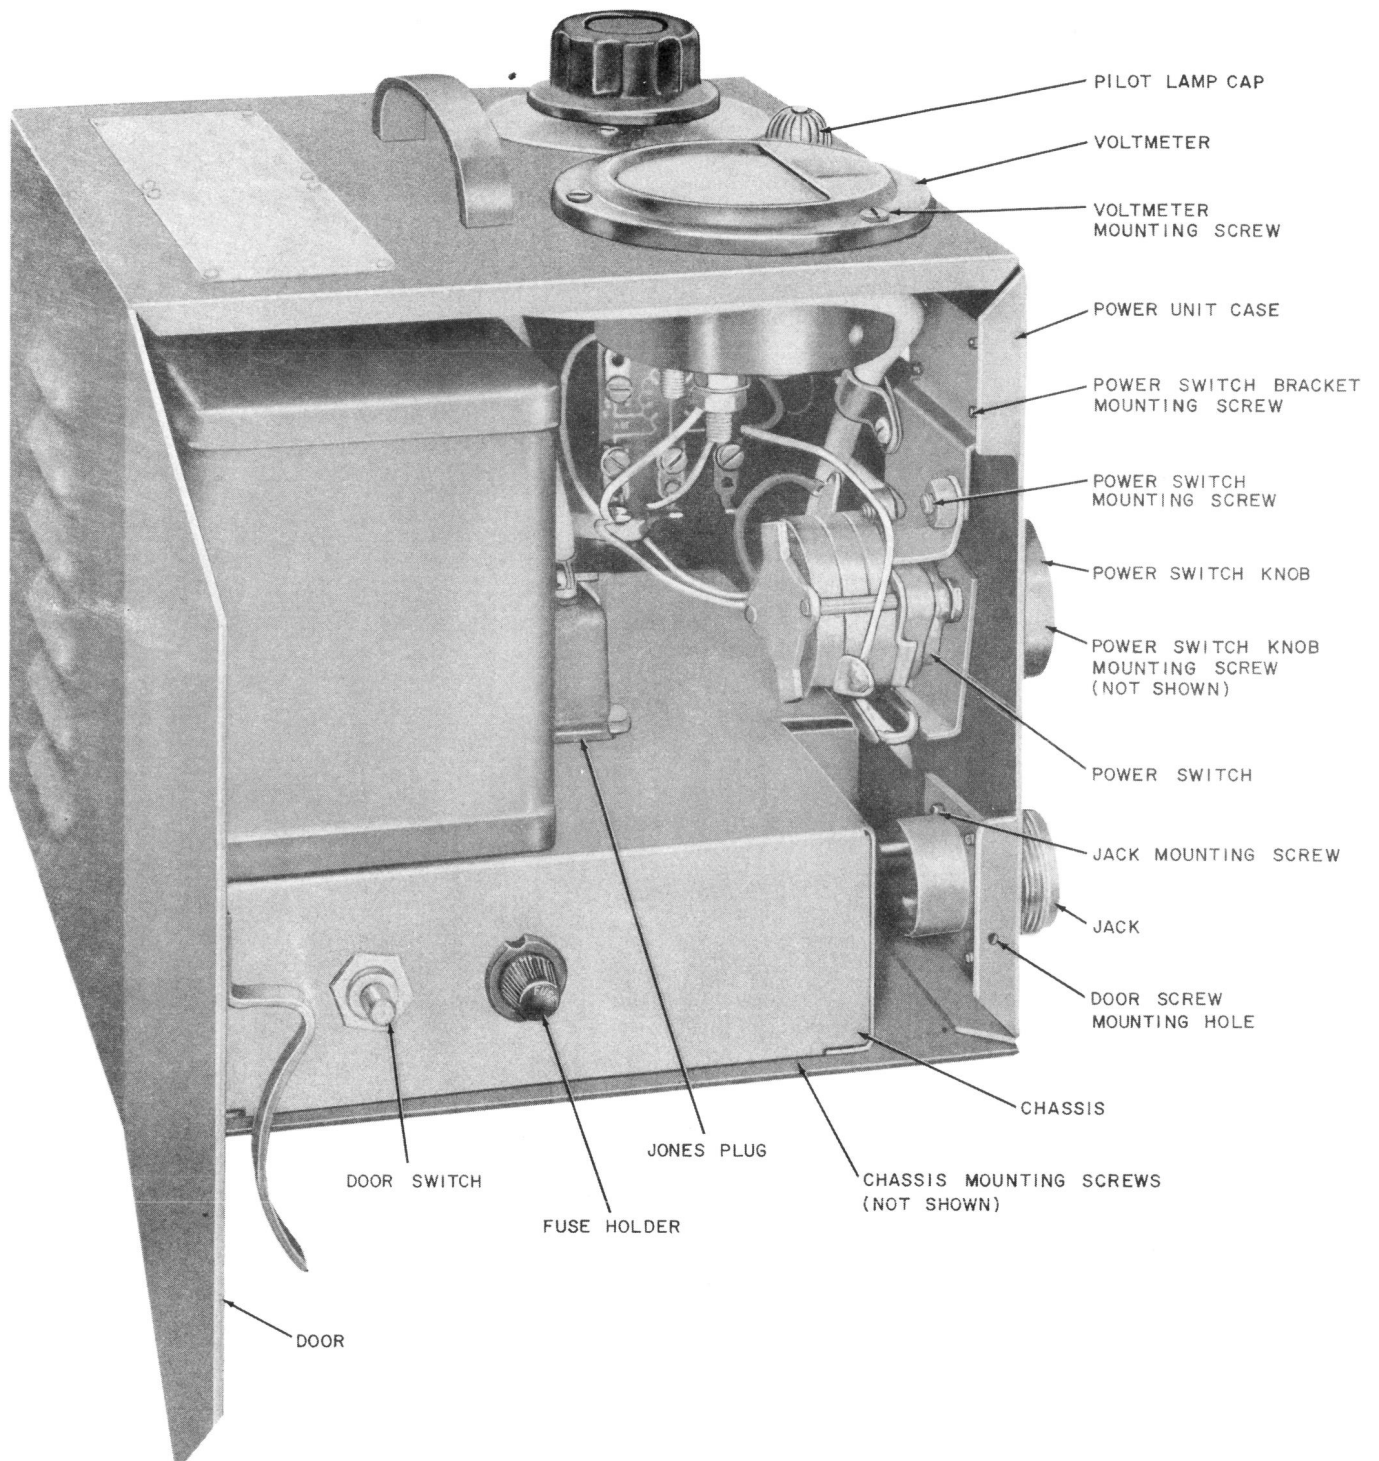

Fig. 16 — KS-14594 Power Unit
3.52 *Power Switch:* Fig. 16 —
- (1) Remove the switch knob mounting screw using the 3-inch C screwdriver taking care not to lose the lockwasher under the head of the screw and the spacing washers on the shaft of the screw between the knob and the switch shaft. Remove the door screws using the 3-inch C screwdriver and swing the door open. While holding the switch, remove the switch bracket mounting screws from the outside of the case using the 4-inch E screwdriver. Tag and unsolder the switch leads. Remove the switch from its mounting bracket using the 4-inch E screwdriver.
- (2) Substitute the new switch and mount all parts in reverse order of removal using spacers as required to prevent the switch knob binding on the case. Close the door and securely tighten the door screws.
3.53 *Pilot Lamp:* Fig. 16 — Unscrew the lamp cap. With the tips of the fingers, press the lamp inward and turn it counterclockwise to disengage it from the socket. Remove the lamp.
3.54 Voltmeter: Fig. 16 —
3.56 Door Switch: Fig. 16 — Tag and unsolder the door switch leads. Remove the switch mounting nut using the KS-6367 wrench and remove the switch. Mount the new switch and securely tighten its mounting nut. Connect and solder the leads.
3.57 Pilot Lamp Socket: Fig. 16 — Remove the pilot lamp as covered in 3.53. Unsolder and disconnect the lamp leads. Remove the lamp socket mounting nut and washer using the Williams No. 731 wrench. Remove the lamp socket. Mount the new lamp socket and securely tighten its nut making sure the lockwasher is in place. Connect and solder the leads. Mount the lamp in the new socket, as covered in 3.53.
3.58 Fuse Holder: Fig. 16 — Remove the fuse from the fuse holder. Tag and unsolder the fuse holder leads. Remove the fuse holder mounting nut using the Williams No. 29 wrench. Remove the fuse holder. Mount the new fuse holder and securely tighten its mounting nut. Connect and solder the leads. Mount the fuse in the new fuse holder.
3.59 Jack for Camera Cable: Fig. 16 — Unsolder the jack leads at the chassis terminals, tagging the terminals. Remove the jack and leads. The new jack is furnished with leads attached. Connect and solder the leads to the proper terminals.